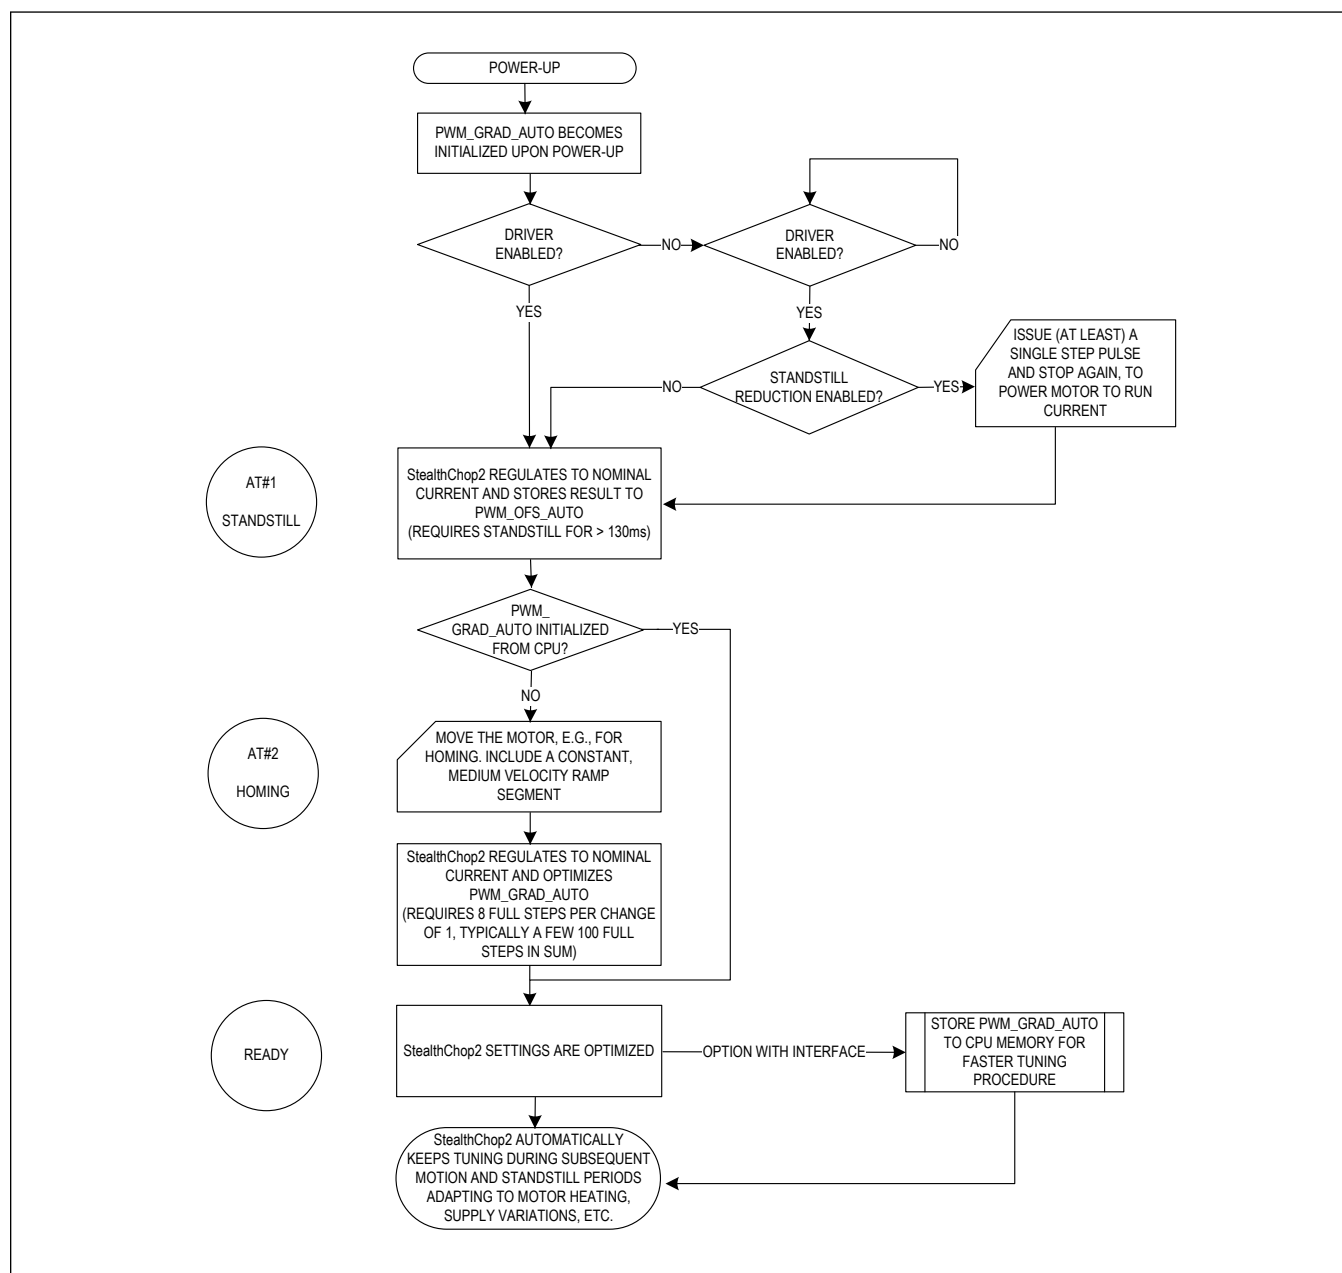

Figure 13. StealthChop2 Automatic Tuning Procedure
StealthChop2 integrates an automatic tuning (AT) procedure, which adapts the most important operating parameters to the motor automatically. This way, StealthChop2 allows high motor dynamics and supports powering down the motor to very low currents. Just two steps have to be taken into account for best results (see Table 7). Start with the motor in standstill, but powered with nominal run current (AT#1). Move the motor at a medium velocity, e.g., as part of a homing procedure (AT#2). The flowchart in Figure 13 shows the tuning procedure.